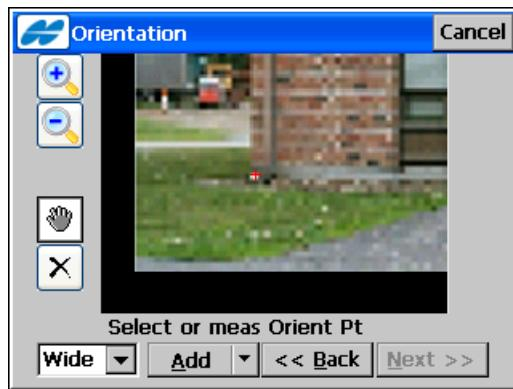

Figure 9-34. Select Orientation Point – Wide View
- The drop-down list in the bottom-left corner of the screen (next to the **Add** button) contains two options to view the image (Figure 9-34 on page 9-37):